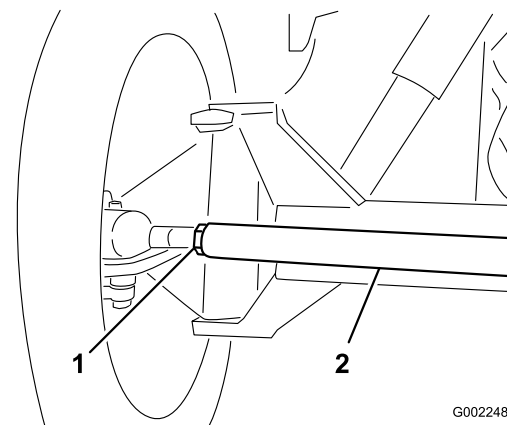

Figure 80
3. If the measurement does not fall within the specified range, loosen the jam nuts at both ends of the tie rod (Figure 80).